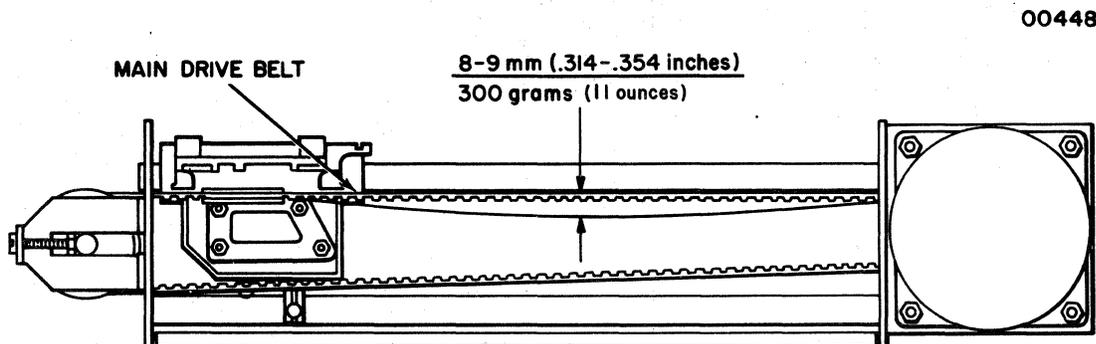

Figure 6-4 Main Drive Belt Adjustment
6.2.4 MAIN DRIVE BELT ADJUSTMENT—With the carriage assembly in the left most position, adjust belt tension by turning clockwise (tighten) or counterclockwise (loosen) two adjusting screws on idle pulley assembly so that deflection at center of belt is 8 to 9 mm (9/16 in.) when a 300 gram (11 oz.) load is applied at the center of the belt. Refer to Figure 6-4.